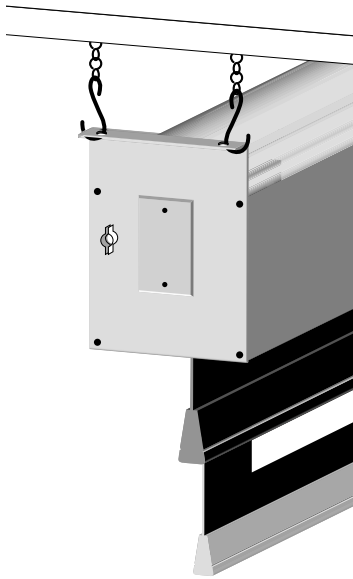

Figure 4: Suspended installation
1. Suspend the unit from the holes in the end plates on the unit using "S" hooks, chains, cables, Unistrut, threaded rod, or turnbuckles. Refer to Figure 4.